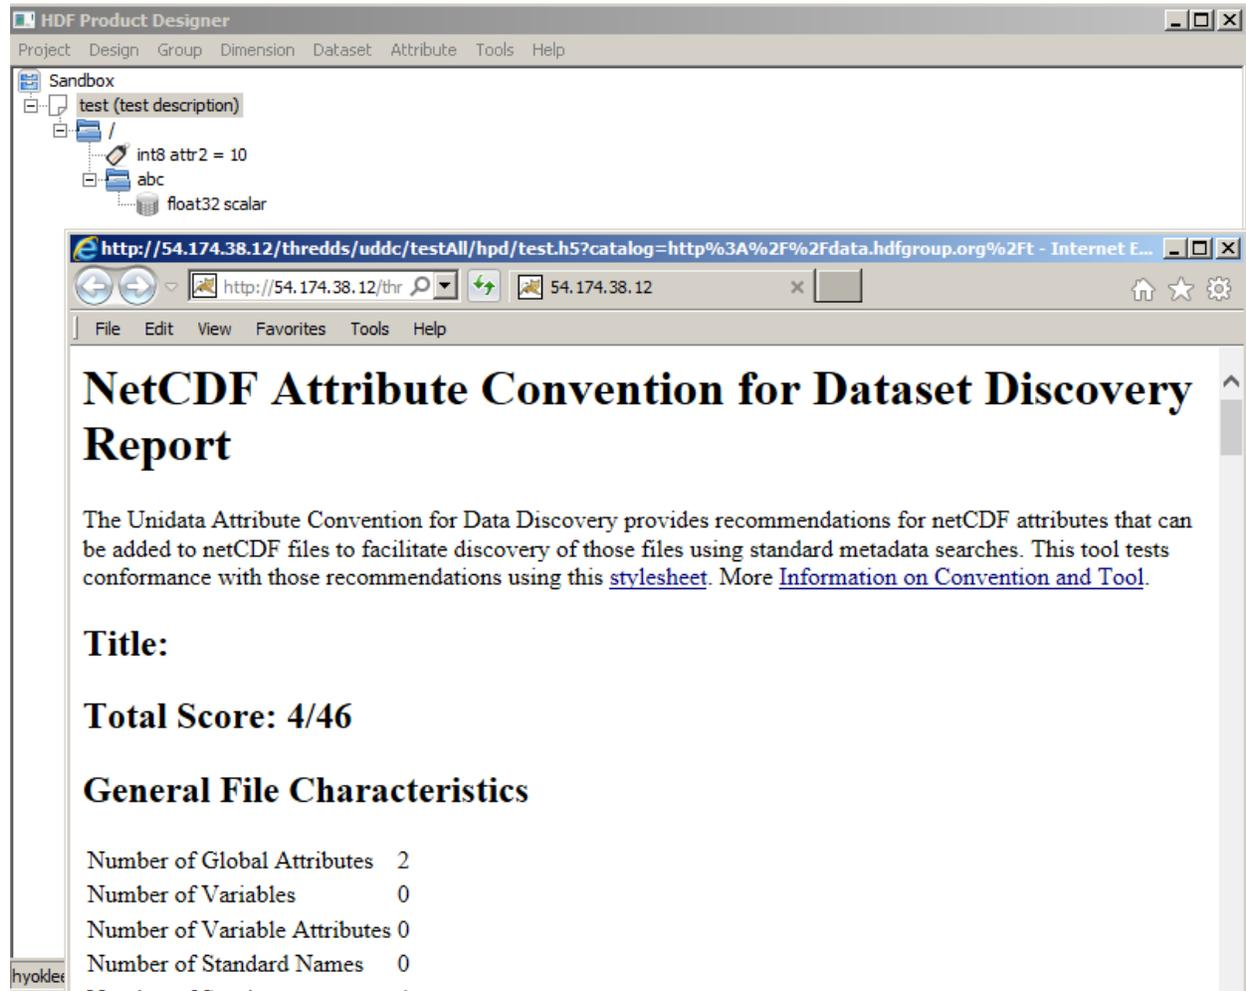

Fig. 5.27: ACDD report from HPD Online
- If no errors, a report will be displayed in a web browser window (Fig. 5.27).